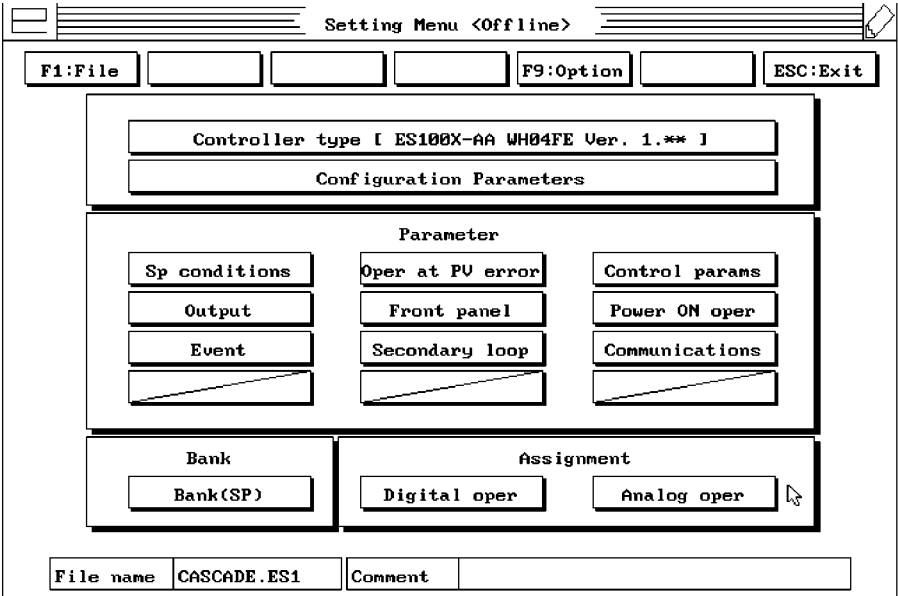

Figure 7
2. From the ES/TOOLS Menu, double-click on the Setting <Offline> icon. The Setting Menu <Offline> will appear (Figure 7).